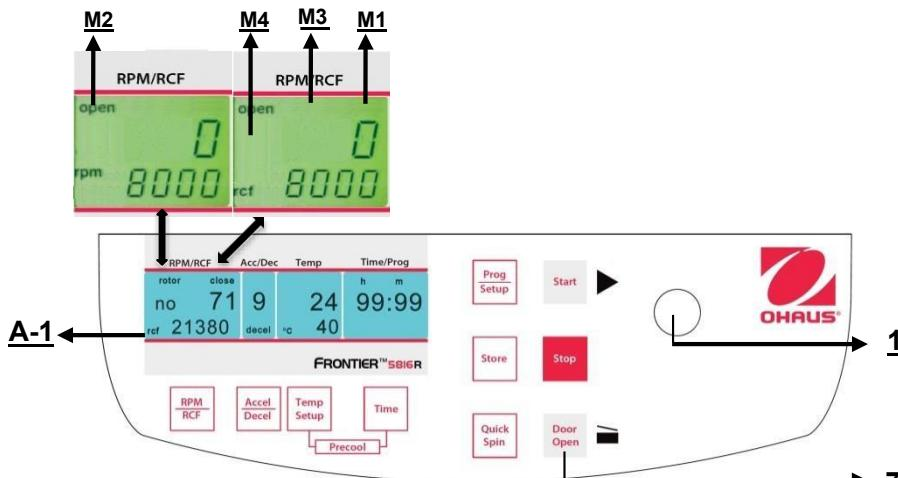

Figure. 18
After the run, when the lid of the centrifuge is closed, the word "close" (M1) appears in the display "RPM | RCF" (A-1). Additionally, if there is a rotor in the centrifuge, the word "rotor" (M3) appears as well as the code number of the respective rotor, which is in the centrifuge system "71" (M4). If there is no rotor in the centrifuge, the word "rotor" (M3) flashes and additionally the word "no" (M4) appears. By pressing the key "Door Open" (7) you can release the lid of the centrifuge. As soon as the electromagnetic lid is completely released, the word "open" (M2) appears. Now you can open the lid of the centrifuge. Please refer to figure 18 below for reference.